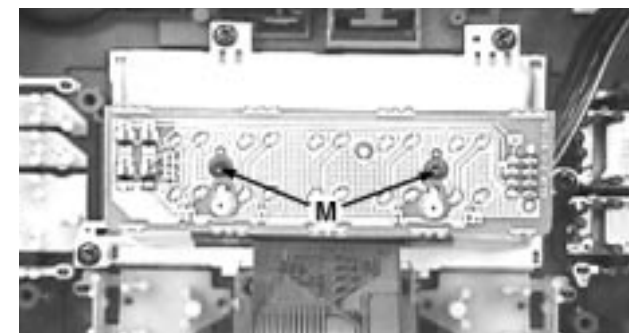

Figure 13
- 10) Loosen 2 screws M (see Figure 13) to remove the LCD Back Light Board (pos 1107-C).